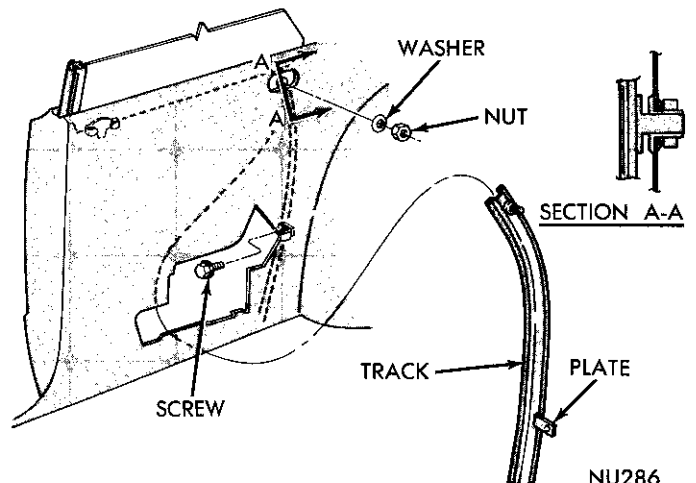

Fig. 75—Rear Track
- (1) Remove nut and washer from track upper sleeve nut (Fig. 75).
- (2) Remove track lower plate to support screw.
- (3) Push track inward and move track and roller assembly forward to disengage roller from slot in glass lower frame.
- (4) Remove track and roller assembly out of panel through large access opening.
- (5) Remove roller assembly from track.
- (3) Insert track upper sleeve into hole of inner panel (Fig. 75).
- (4) Align track lower plate on support and secure with screw.
- (5) Place spring washer, concave side facing outboard, on sleeve nut and install retaining nut.